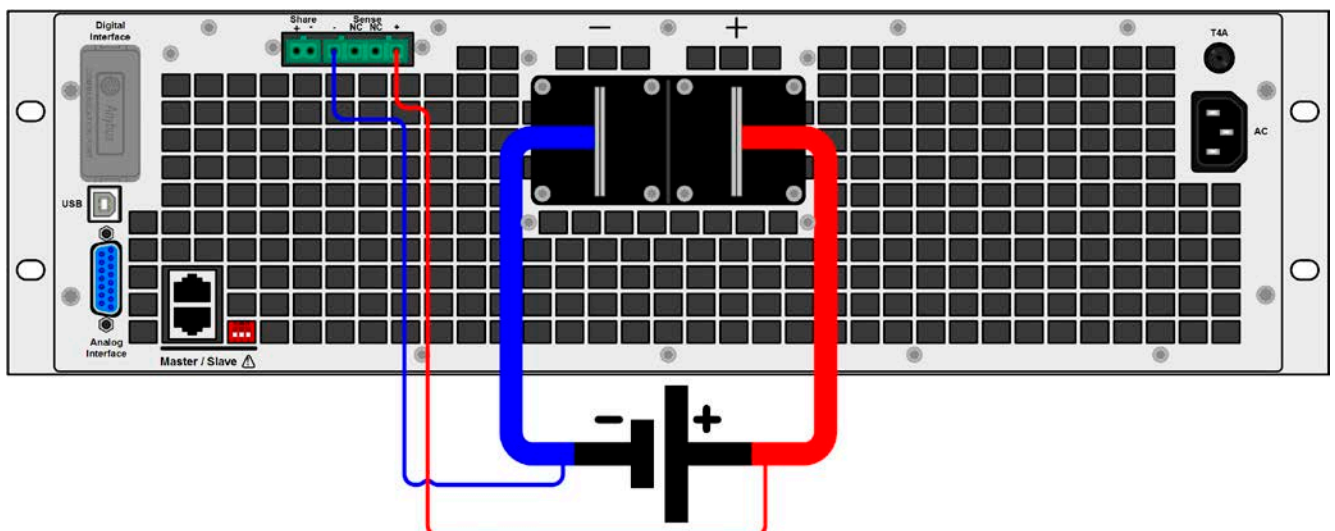

Figure 12 - Example for remote sensing wiring
- *Remote sensing is only effective during constant voltage operation (CV) and for other regulation modes the sense input should be disconnected, if possible, because connecting it generally increases the oscillation tendency.*
- *Sensing cables must be connected + to + and - to - at the source, otherwise the sense input of the electronic load can be damaged. For an example see Figure 12 below.*